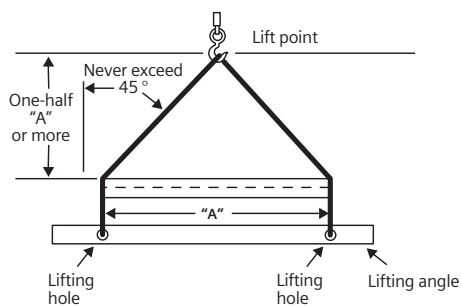

Figure 2. Proper method for lifting a motor control center
3. Do not allow the angle between the lifting cables and vertical to exceed 45° as shown in Figure 2.